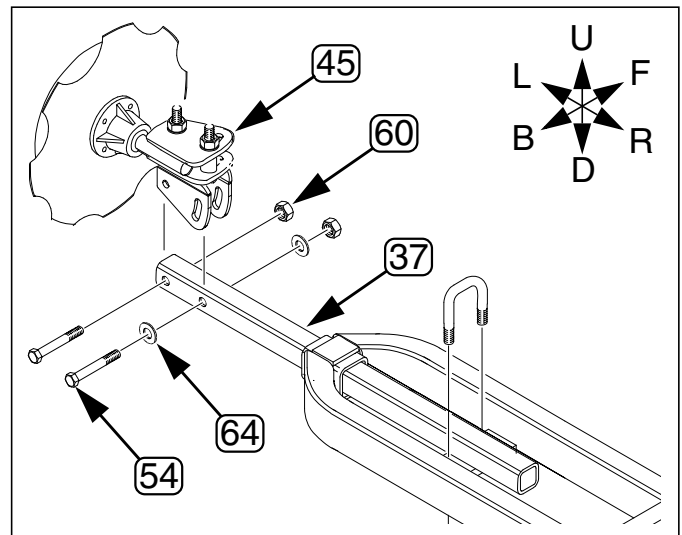
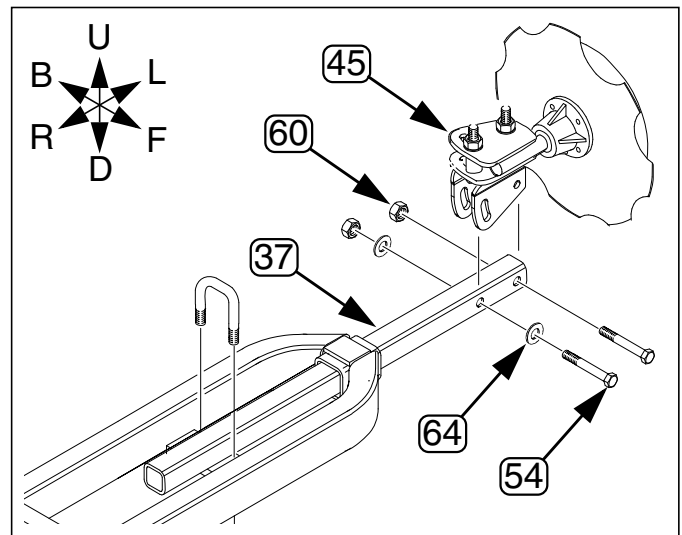

Figure 25
Figure 26
Refer to Figure 25 (which depicts the left arm, folded)
(45) 113-563S MARKER DISC & HUB ASSEMBLY
Choose the assembly (45) that matches the image in Figure 25 for the left arm, or matches the image in Figure 26 for the right arm.
Refer to Figure 26 (which depicts the right arm, folded)